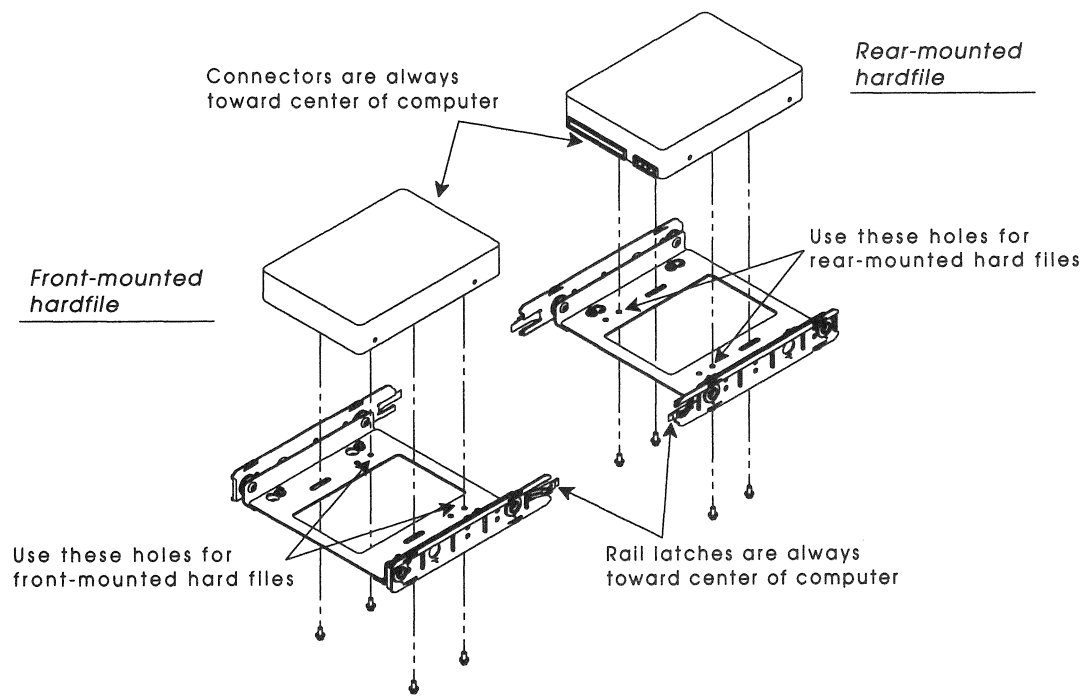

Figure 3-4. Hard disk drive installation
- **To install a 3½ inch drive into a 5¼ inch bay**, use the mounting kit for a 5¼ inch bay. Refer to Figure 3-4 on page 3-16. First attach the slide rails to the two L-shaped brackets with the grommets, bushings, spacers, and flathead screws provided in the mounting kit. Then attach the drive to the carrier tray with four screws provided. Finally, attach the carrier tray between the L-shaped brackets. (This combination is useful for shock mounting a 3½ inch drive.)